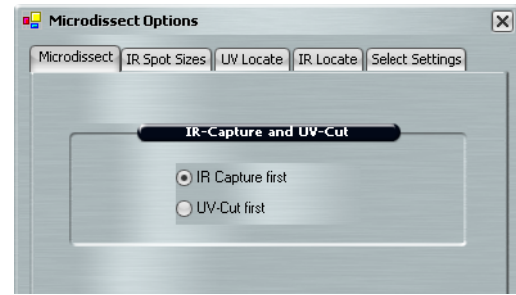

Figure 54 Microdissect tab.
2. Click **IR Capture first** or **UV-Cut first** to set the order (see Figure 54).